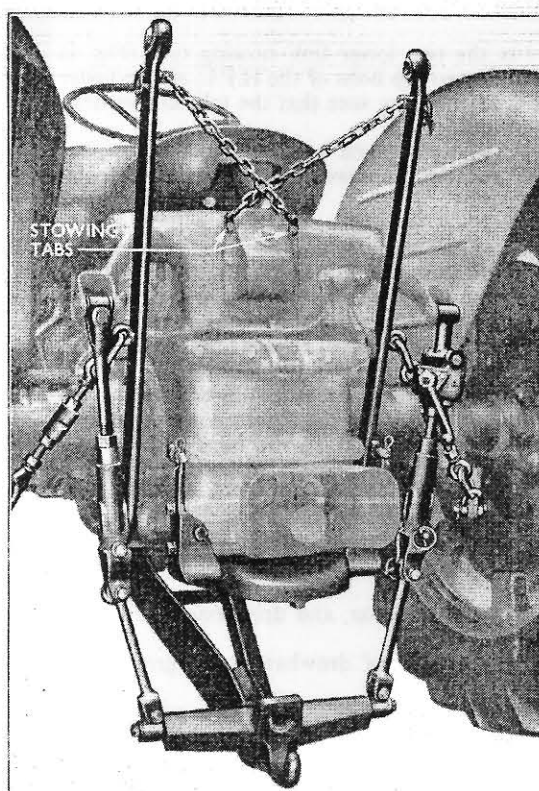

Fig. 1
3. Fix the two lower link stowing tabs (Fig. 1) under the two top bolts of the H.P.L. ram cylinder rear cover, making sure that the tabs are vertical.
5. Cross the two lower link safety chains and attach them to the stowing tabs. (See Fig. 1.) Adjust the check chains so that the safety chains hold the lower links tightly in position, and provide clearance for the H.P.L. lift arms to operate.